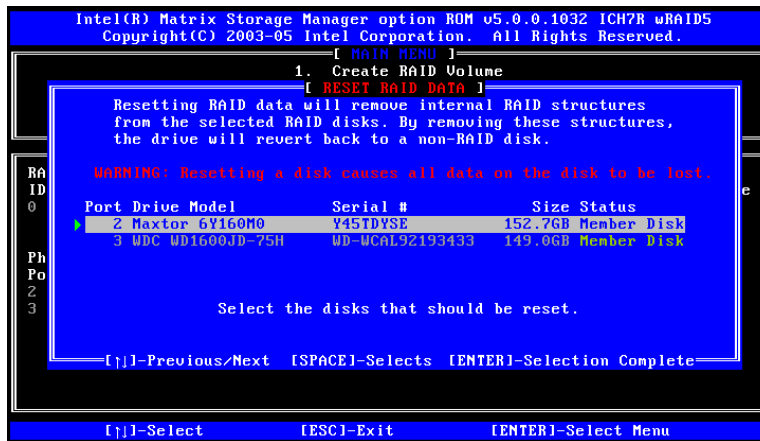

Figure F-13: Select Disk to Reset
Step 2: Select Disks to Reset. Use the arrow keys to scroll through the disk drives and press **SPACE** to select which drives are to be reset as non-RAID. After all the disks to be reset have been chosen, press **ENTER**. See Figure F-13.